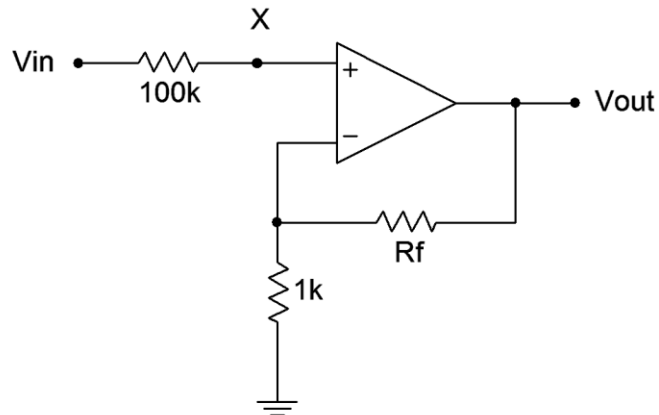

Figure 2
10. It is not practical to use an ohmmeter to determine the input impedance of an active circuit. Instead, input impedance can be found by utilizing the voltage divider effect. Modify the circuit by adding the extra input resistor as shown in Figure 2.